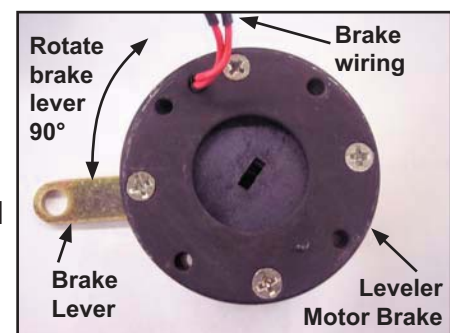

Figure 6
33. Rotate the leveler brake 1/4 turn (90°). See Figure 6.